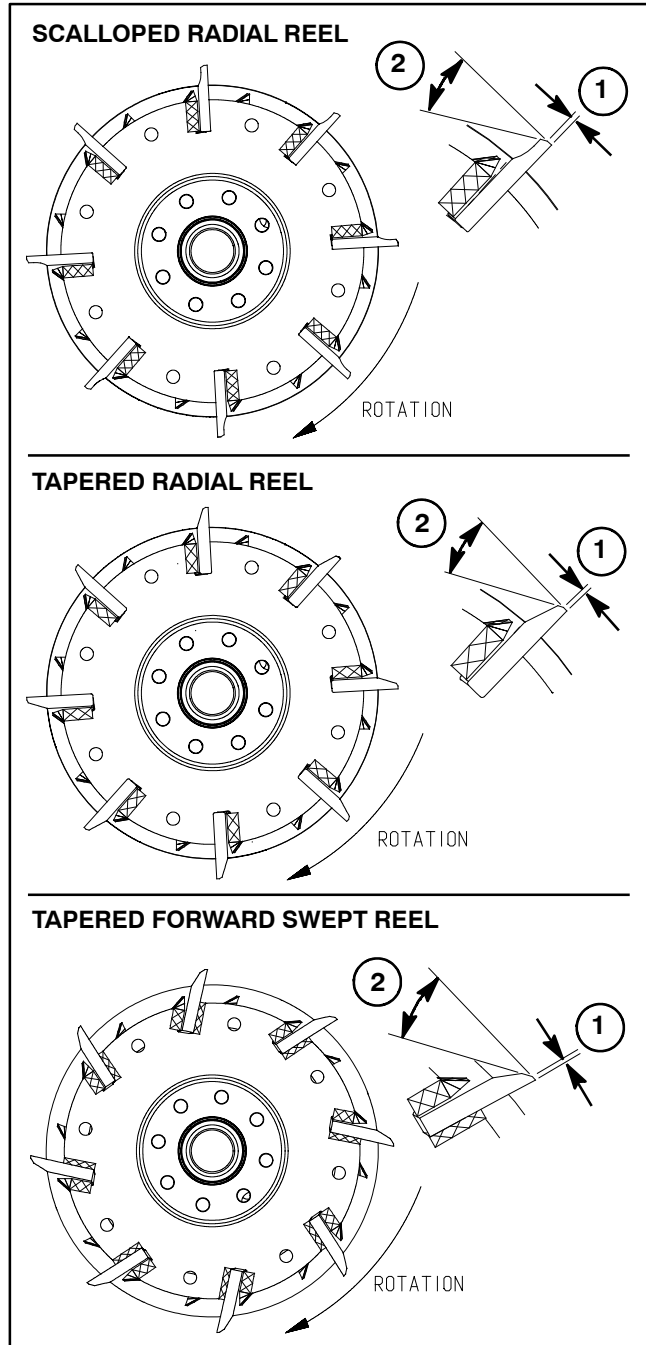

Figure 34
Three (3) types of cutting reel designs are used in cutting units for Reelmaster 5010-H machines: scalloped radial reel, tapered radial reel and tapered forward swept reel. The different types of individual reel blades are shown in Figure 34. The radial reel designs have blades that are placed in line with the center of the reel shaft. The rear of the blades either have a scalloped relief or a tapered relief. The forward swept reel have blades that have a slight forward slant. The rear of the forward swept reel blades have a tapered relief.